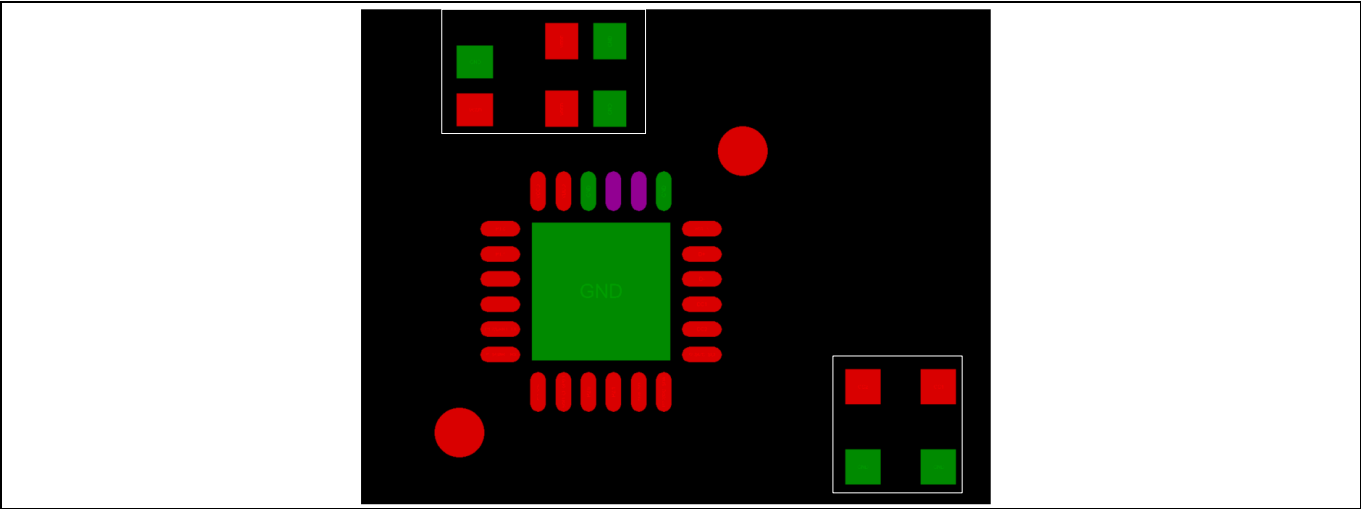

Figure 17 Placement of bulk and decoupling capacitors
- Place decoupling capacitors close to the power pins of the respective PMG controller for high- and low-frequency noise filtering as shown in Figure 17.